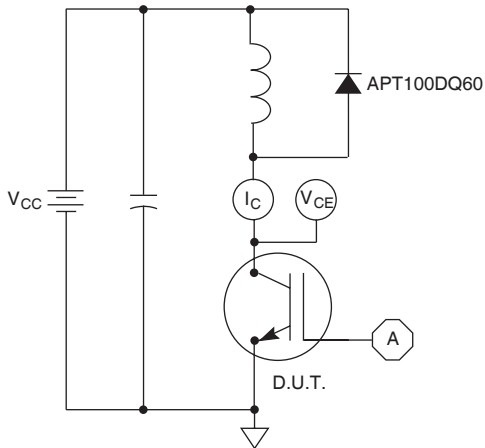

Figure 21, Inductive Switching Test Circuit
- ① Repetitive Rating: Pulse width limited by maximum junction temperature.
- ② For Combi devices,  $I_{ces}$  includes both IGBT and FRED leakages
- ③ See MIL-STD-750 Method 3471.
- ④  $E_{on1}$  is the clamped inductive turn-on energy of the IGBT only, without the effect of a commutating diode reverse recovery current adding to the IGBT turn-on loss. Tested in inductive switching test circuit shown in figure 21, but with a Silicon Carbide diode.
- ⑤  $E_{on2}$  is the clamped inductive turn-on energy that includes a commutating diode reverse recovery current in the IGBT turn-on switching loss. (See Figures 21, 22.)
- ⑥  $E_{off}$  is the clamped inductive turn-off energy measured in accordance with JEDEC standard JESD24-1. (See Figures 21, 23.)